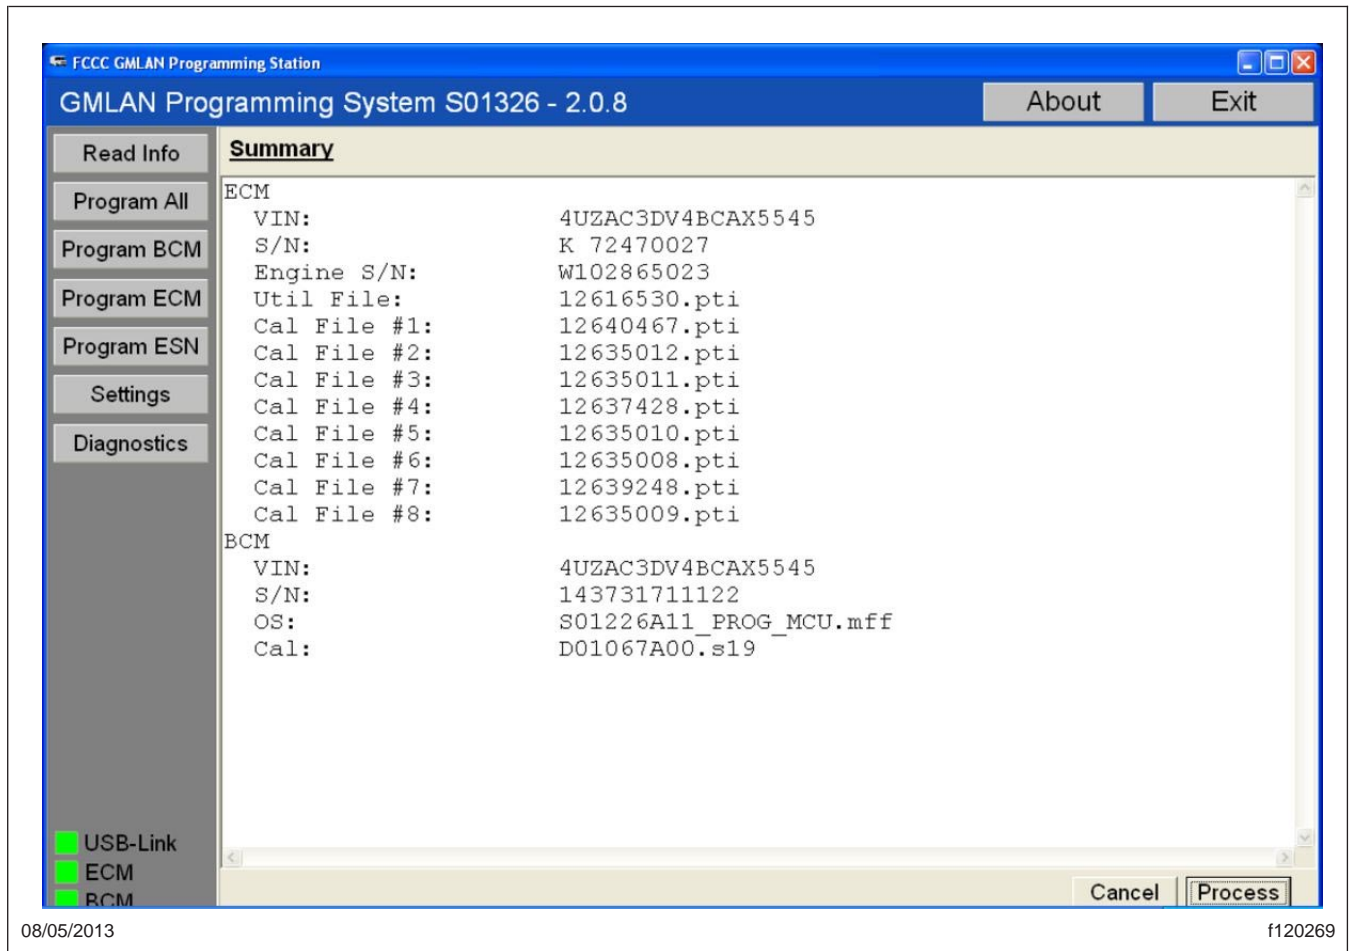

Fig. 4, Confirmation Screen
4. A confirmation screen will appear. Verify that the correct VIN is shown, then click "Process" at the bottom right of the screen. See Fig. 4.